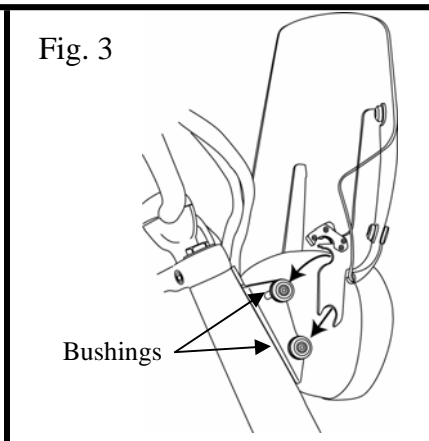

Fig. 3
8. Slip the windshield brackets into the bushings, adjust height and angle. Now tighten all mounting all bolts. (see fig. 3)